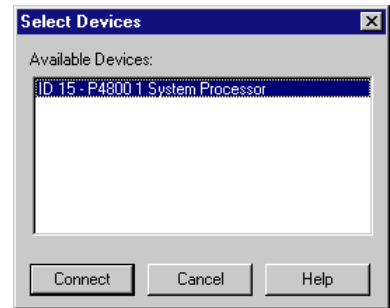

Figure 17 – Select Devices Dialog
2. The Select Devices dialog will appear, as pictured on the right in figure 17.